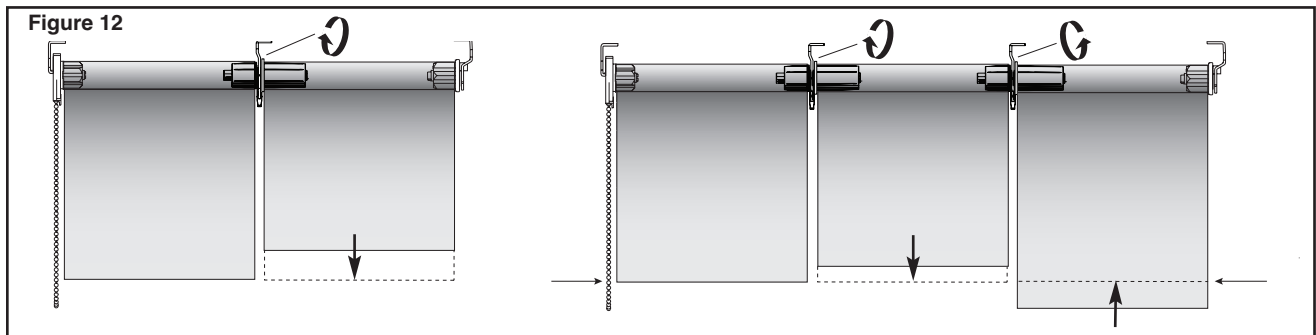

Figure 12
12. Once secured, use the grip wheel on the Infinite Adjuster to adjust the shade on the corresponding tube until it becomes level with the shade on the clutch tube. The level of adjustment is infinitely fine due to RollEase's patented technology. (Figure 12)